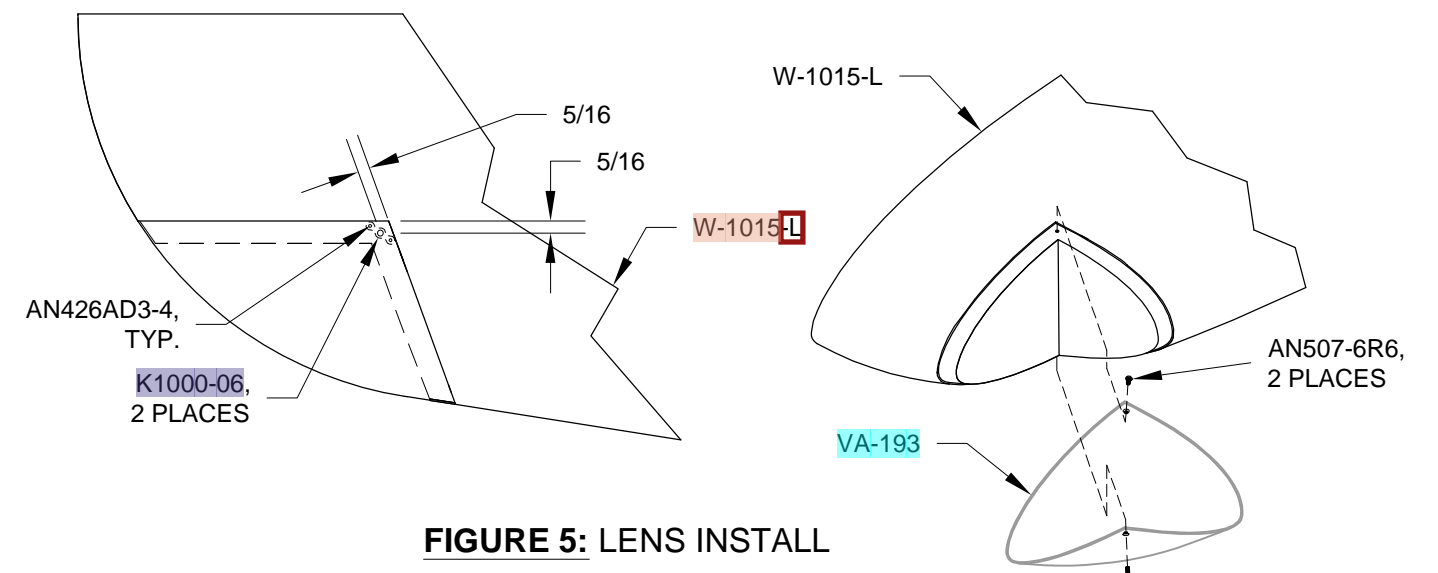

FIGURE 5: LENS INSTALL
Step 5: Drill #40 the VA-193-L Left Lens into the W-1015-L Wing Tip at the upper and lower corners using the dimensions given in Figure 5. After drilling cleco each hole. Remove the tape and check the fit. Final-Drill #28 both holes in the wing tip and the left lens.
Step 6: Match-Drill #40 the nutplate attach pattern into the W-1015-L Wing Tip, orient the nutplate approximately as shown in Figure 5. Countersink the VA-193-L Left Lens for the head of a #6 flush head screw and the W-1015-L Wing Tip for the AN426AD3 nutplate attach rivets.
Step 7: Install the VA-193-L Left Lens using the hardware called out in Figure 5.